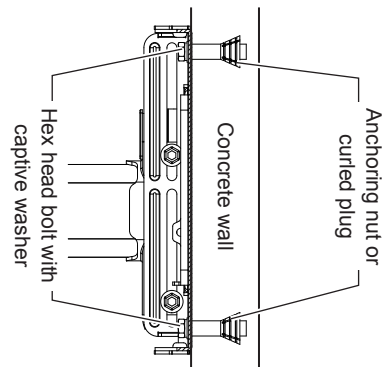

Fig.5
- When installing to a concrete wall (Fig.5)